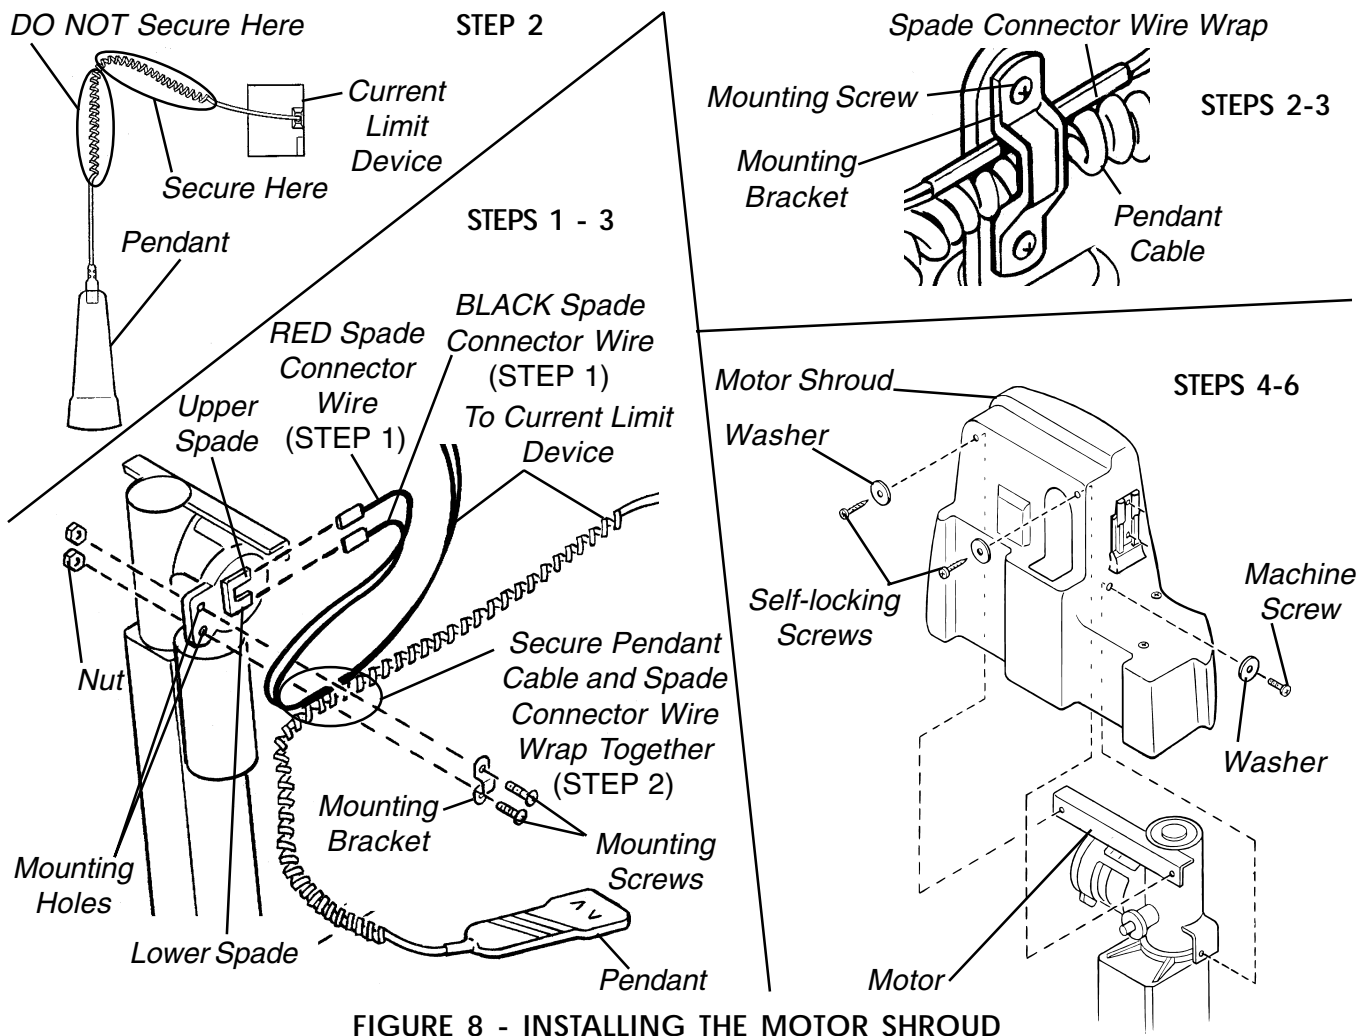

FIGURE 8 - INSTALLING THE MOTOR SHROUD
## Installing the Motor Shroud (FIGURE 8)
The spade connectors **MUST** be connected to the motor as shown in FIGURE 8 - otherwise, the pendant will operate improperly.
2. Secure the pendant cable and the spade connector wire wrap to the motor with the mounting bracket as shown in FIGURE 8.
3. Align the mounting holes of the mounting bracket and motor and secure the mounting bracket with the two (2) EXISTING mounting screws. Tighten securely.
6. Install the two (2) self-locking screws and two (2) washers in the front mounting holes. Tighten securely.